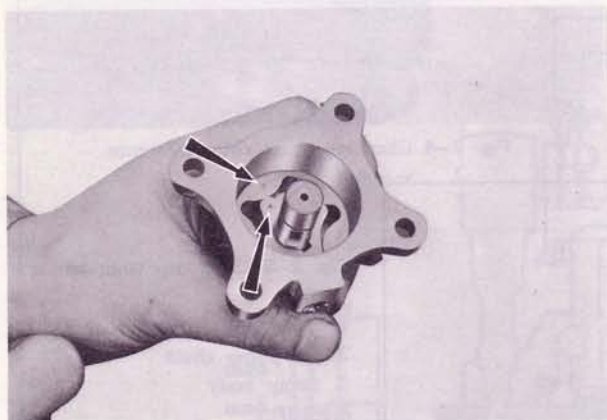

Fig. 2-7 Installing rotors
4. Install the outer rotor to the body so as to see the identification marks of triangle. Apply oil to the rotors. (Fig. 2-7)